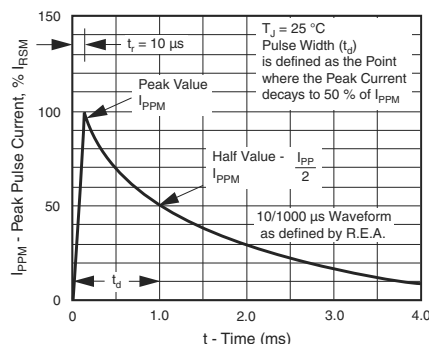
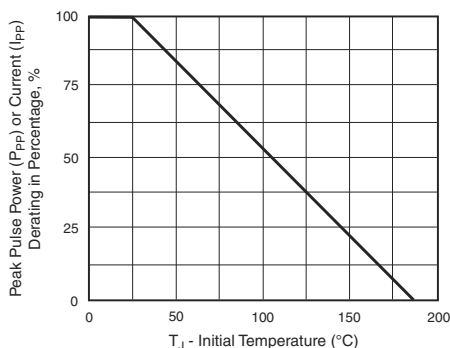

Figure 3. Pulse Waveform
Figure 2. Pulse Power or Current vs. Initial Junction Temperature
(1) Pulse test: tp ≤ 50 ms
(2) Surge current waveform per fig. 3 and derated per fig. 2
(3) All terms and symbols are consistent with ANSI/IEEE C62.35